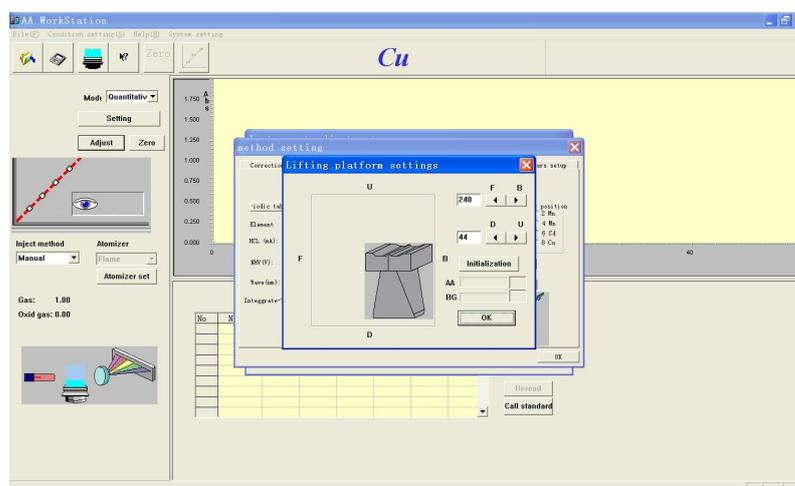

Figure 4-47
- If you need to adjust the position of the lifting platform, press the "Lifting platform settings" button to display the "Lifting platform" dialog as shown in Figure 4-47.